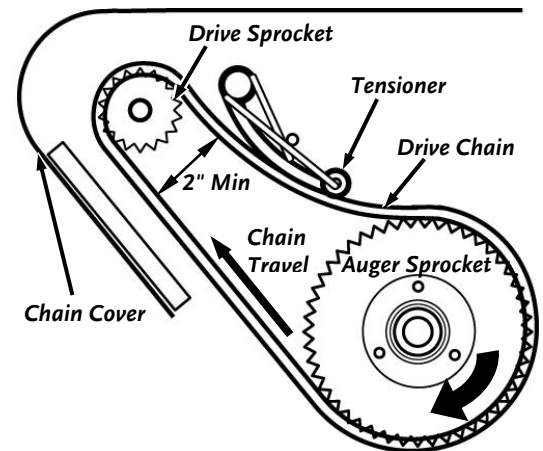

Figure 12
Replace the Drive Chain when the distance between the sections of the Chain is less than 2" (**Figure 12**).
1. Using a 1/2" Wrench, unbolt the Chain Cover (**Figure 12**) and remove it.
3. Check the Chain Tensioner for wear (**Figure 12**) and replace it if necessary.